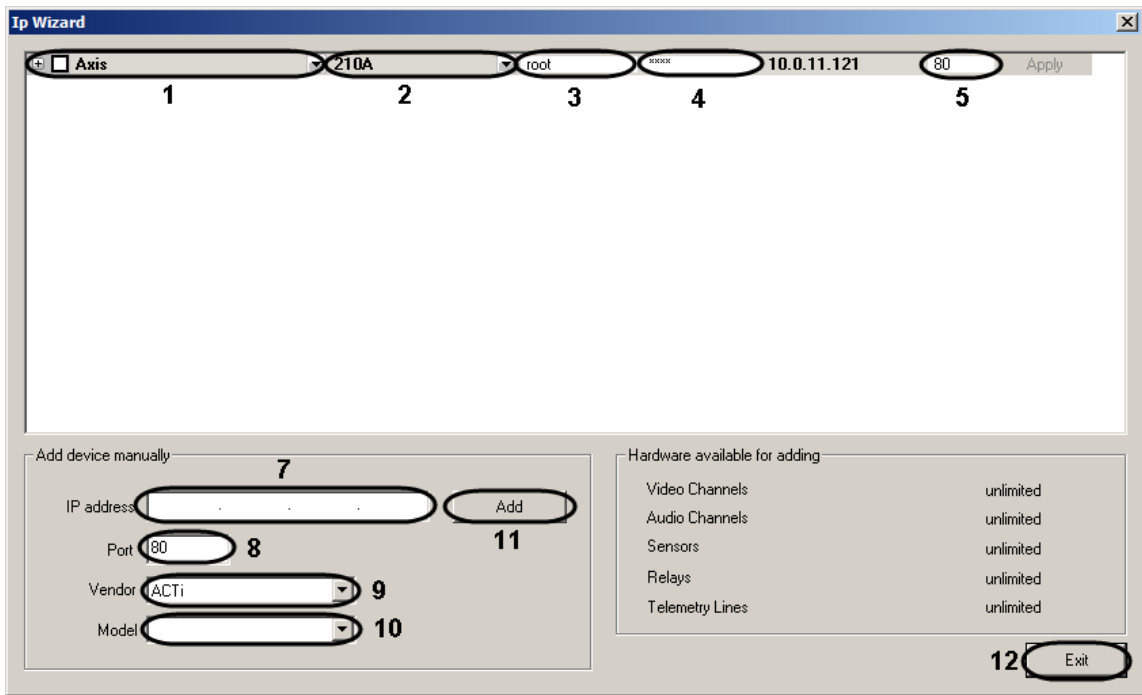

Figure 3.2-5 The IP Wizard window
As a result the **IP Wizard** window is displayed. Found IP devices are displayed on the top of the window (Figure 3.2-5).
4. Check up the vendor (Figure 3.2-5, 1) and model (Figure 3.2-5, 2) for для found IP device. Make changes if necessary by opening corresponding dropdown list (use button) and changing required value.
5. Check up the TCP/IP port (Figure 3.2-5, 5). Enter the required value in the field.
6. Enter login (Figure 3.2-5, 3) and password (Figure 3.2-5, 4) to connect IP device. Login and password are given in the documentation for connected network device.
8. Click **Apply** (Figure 3.2-5, 6).
- 10.1. Enter the IP address of device in the **IP address** field (Figure 3.2-5, 7).
- 10.2. Enter the number of TCP/IP port in the **Port** field (Figure 3.2-5, 8).
- 10.3. Select the vendor of IP device in the **Vendor** dropdown list (Figure 3.2-5, 9).
- 10.4. Select the model of IP device in the **Model** dropdown list (Figure 3.2-5, 10).
- 10.5. Click **Add** (Figure 3.2-5, 11).
12. Click **Exit** to close the IP Wizard window (Figure 3.2-5, 12).